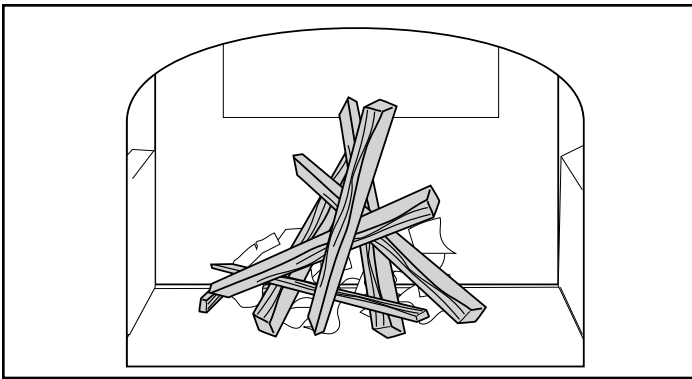

Fig. 37 - Start the fire with newspaper and dry kindling.
2. Place several sheets of crumpled newspaper in the stove. Place six or eight pieces of dry kindling split to a finger-width size on the paper. On the kindling, lay two or three larger sticks of split dry wood approximately 1-2" (25-51 mm) in diameter. (Fig. 37)